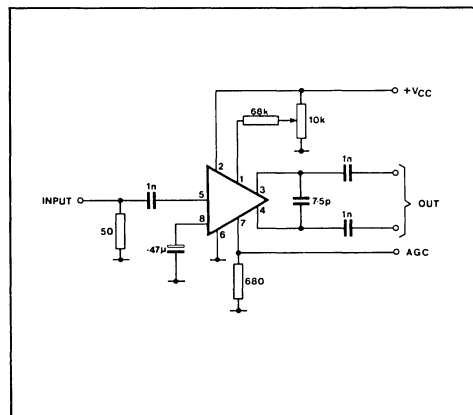

Fig. 3 Test circuit
- Measurements made using test circuit Fig. 3.